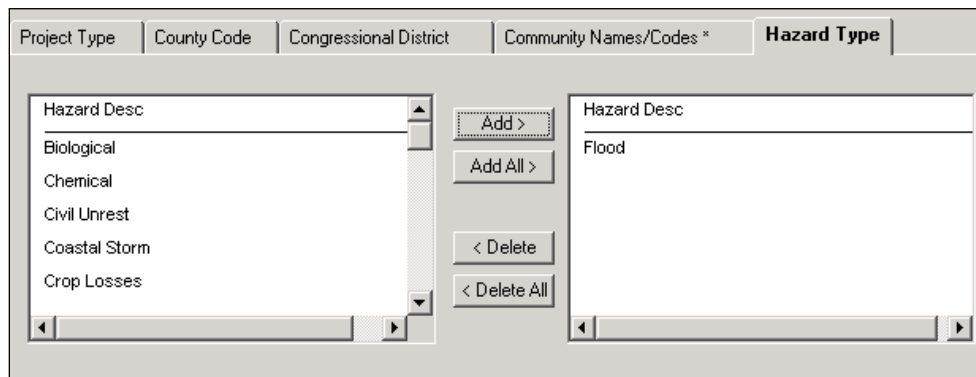

Figure 6-39: Hazard Type Added
- b. Click the ADD or ADD ALL (if you highlighted more than one row) button. The Hazard Description(s) you selected is (are) now displayed on the right side (Figure 6-39).